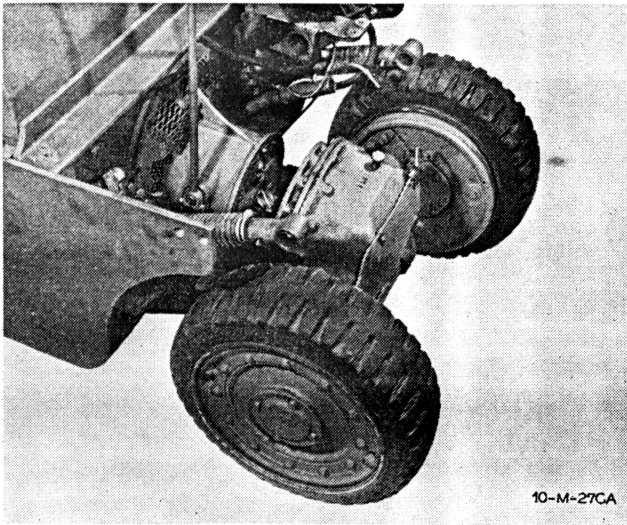

Fig. 12
8. Maneuver drive axle away from machine. See Figs. 12 and 13.